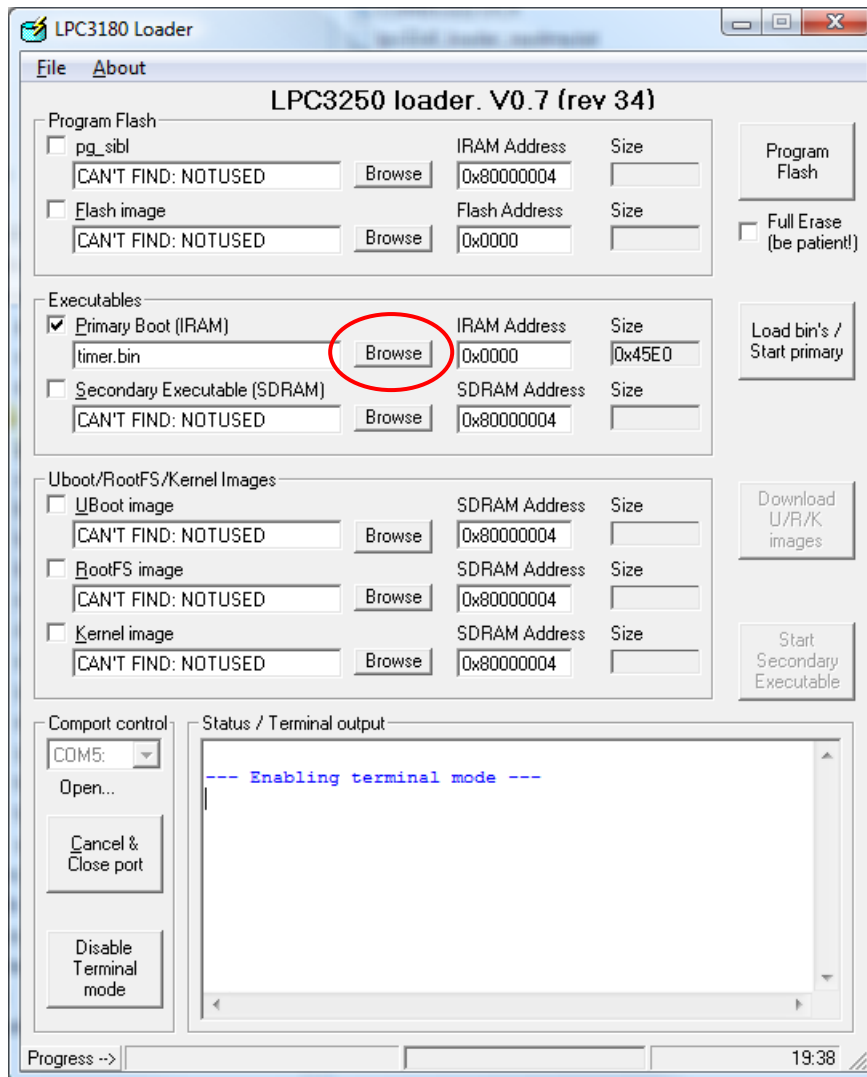

Figure 3 LPC3250 loader application
1. Start the LPC3250 loader application, see Figure 3.